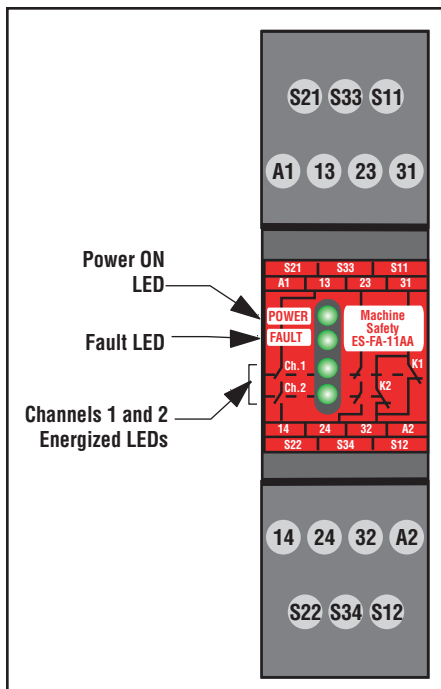
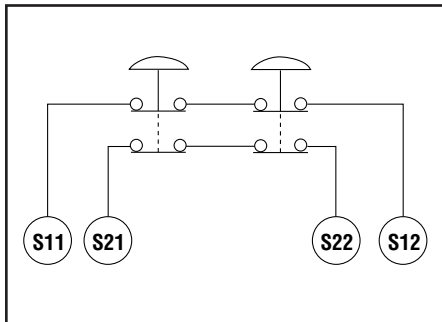
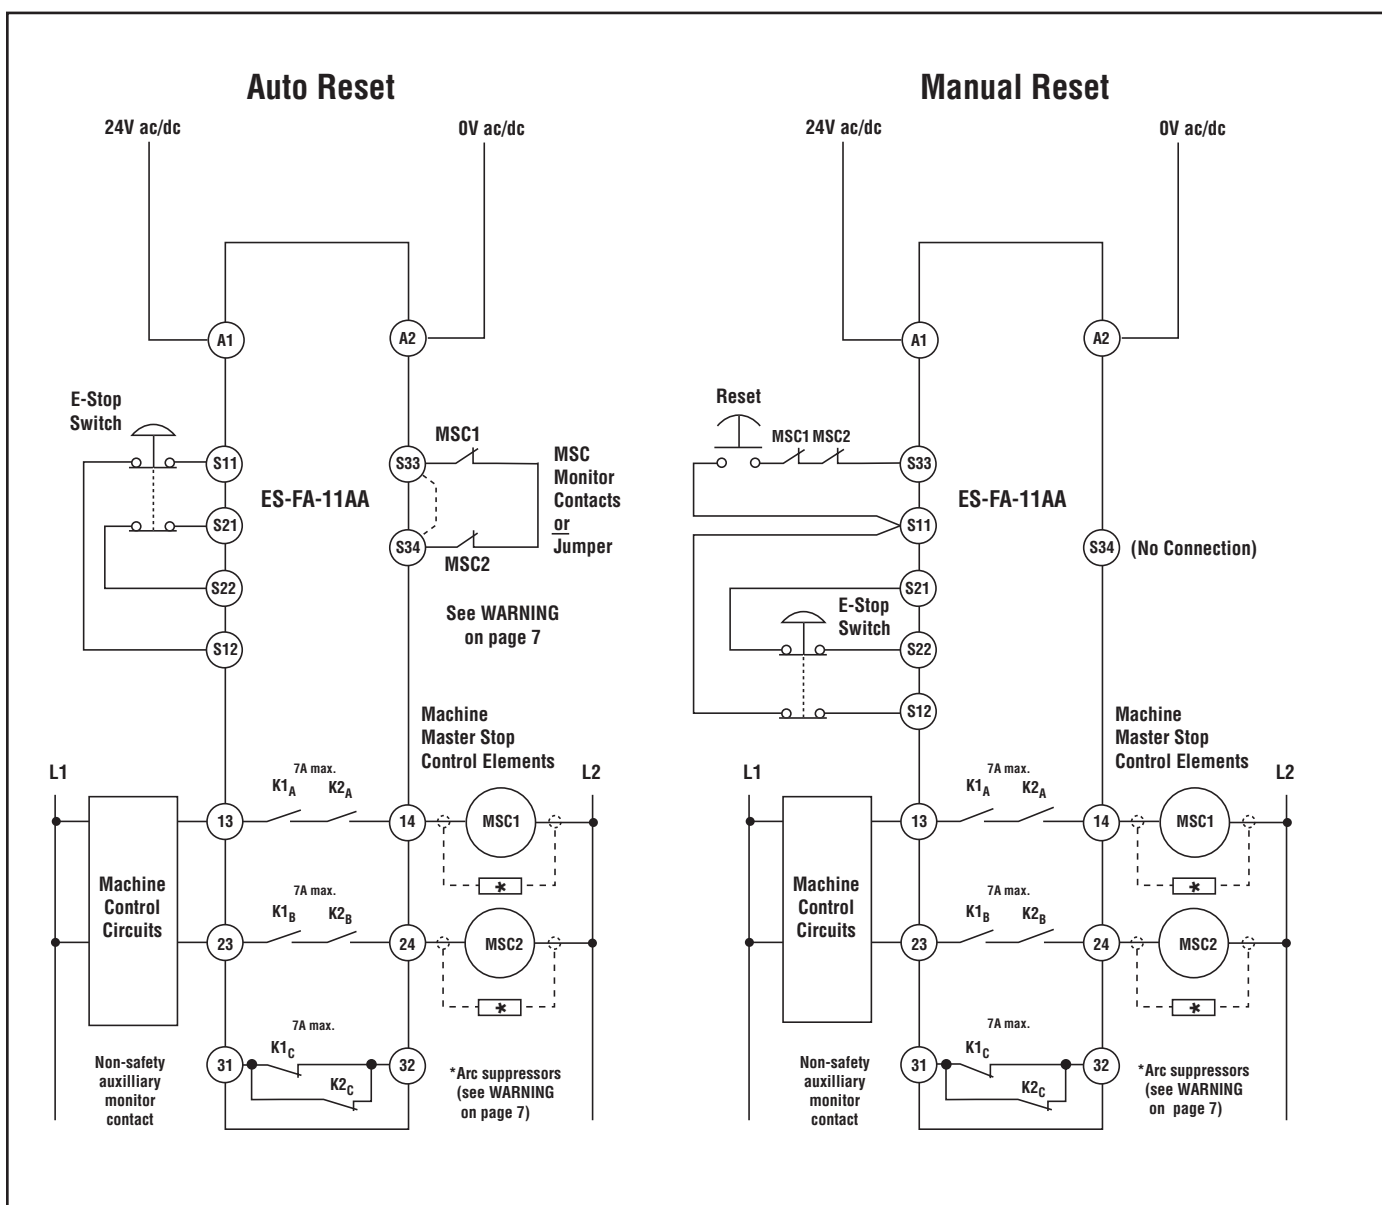

Figure 1. ES-FA-11AA features and terminal locations
Figure 2. Series connection of multiple E-stop switches
Figure 4. 2-Channel E-Stop Applications: Hookup of ES-FA-11AA E-Stop Safety Module
The purpose of an Emergency Stop Safety Module (E-Stop Safety Module) is to increase the control reliability of an emergency stop circuit. As indicated in Figures 2 and 3, the model ES-FA-11AA E-Stop Safety Module (the Module) is designed to monitor a 1-channel or 2-channel E-stop switch. A 2-channel E-stop switch has two electrically isolated contacts.
The Module's output consists of two redundant output switching channels, each of which is the series connection of two forced-guided relay contacts that are internally monitored (K1 and K2 in Figure 4). If the Module detects a failure, such as a welded output relay contact, all outputs are disabled and cannot be reset. The two switching output circuits, as well as the N/C auxiliary output of the E-Stop Safety Module, are rated for up to 250V ac/dc at up to 7 amps.
The E-Stop Safety Module also provides a necessary reset function. U.S. and international standards require that a reset routine be performed after returning the E-stop switch to its closed-contact position. This prevents the controlled machinery from restarting by simply closing the E-stop switch. The Module may also be configured for automatic reset (see Figures 4 and 5). **The automatic reset mode is useful for some automated processes. However, when automatic reset is used, an alternate means must be established to require a reset routine after the E-stop switch is returned to its closed contact position (see WARNING on page 8).**
The Safety Module has indicators for input power, fault, and output relay contact status (K1 and K2); see Figure 1. There are no adjustments and no user-serviceable parts. See page 10 for information regarding repair service.
As shown in Figures 4 and 5, the E-stop switch must provide contacts which are closed when the switch is in the “armed” position. Once activated, the E-stop switch must open its contacts and be returned to the closed-contact position *only* by a deliberate action (such as twisting, pulling, or unlocking). The switch should be a “positive-opening type,” as described by IEC60947-5-1. A mechanical force applied to such a button (or switch) is transmitted directly to the contacts, forcing them open. This ensures that the switch contacts will open whenever the switch is activated. NFPA 79, Emergency Stop Devices, specifies the following additional switch (“stop control”) requirements:
Connect the poles of the E-stop switches as shown in Figures 4 and 5. The switches are shown in the "armed" position with both contacts closed. Multiple E-stop switches connected to one E-Stop Safety Module must be series connected (see Figure 2 and the warning on page 8).
To satisfy the requirements of Safety Category 4 of ISO 13849-1(EN 954-1), the Master Stop Control Elements must each offer a normally closed, forced-guided monitor contact. One normally closed monitor contact from each Master Stop Control Element is wired in series to the feedback input (S33/S34 auto reset, S11/S33 manual reset; see Figures 4 and 5). In operation, if one of the switching contacts of either master stop control element fails in the shorted condition, the associated monitor contact will remain open. Therefore, it will not be possible to reset the E-Stop Safety Module. If no MSC-monitor contacts are monitored in auto reset, a jumper must be installed between terminals S33 and S34 (see Figures 4 and 5). **It is the responsibility of the user to ensure that any single failure will not result in a hazardous condition and will prevent a successive machine cycle.**
The hookup diagrams (Figures 2, 4 and 5) show a generic connection of the E-Stop Safety Module's redundant output circuits to Master Stop Control Elements. A Master Stop Control Element is defined as an electrically powered device, external to the E-Stop Safety Module, which stops the machinery being controlled by immediately removing electrical power to the machine and (when necessary) by applying braking to dangerous motion (reference ANSI B11.19, section 5.2: "Stop Control"). This stopping action is accomplished by removing power to the actuator coil of either Master Stop Control Element.
The Reset Circuit switch can be any mechanical switch, such as a normally open momentary switch or a two-position key switch. The Reset switch must be capable of reliably switching 12 to 18V dc at 40 to 100 milliamps. As shown in Figures 4 and 5, the Reset switch connects between terminals S33 and S11 of the Safety Module.
The Module may be used also with automatic reset. If no MSC-monitor contacts are monitored, a jumper must be installed between terminals S33 and S34 (see Figures 4 and 5). The E-Stop Safety Module will reset (and the outputs energize) as soon as the E-stop switch returns to its closed-contact position.
- 3) Apply power to the E-Stop Safety Module at terminals A1 and A2 (see Figures 4 and 5). Verify that only the **Input Power** indicator (Figure 1) is ON. If any of the other three indicators is ON at this point, disconnect the input power and check all wiring. Return to step 2 after the cause of the problem has been corrected.